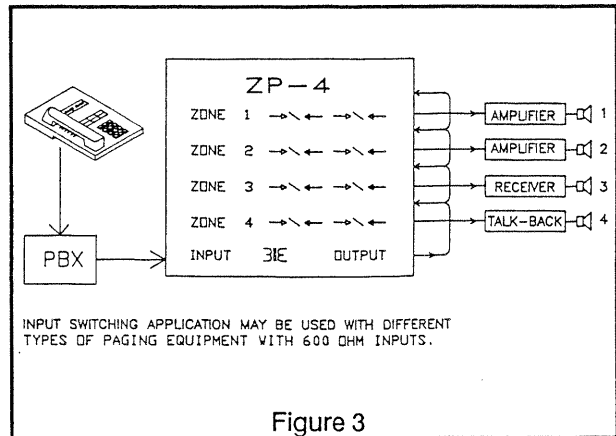

Figure 3
2) Switching the paging signal to the input of an amplifier in each zone (Figure 3).